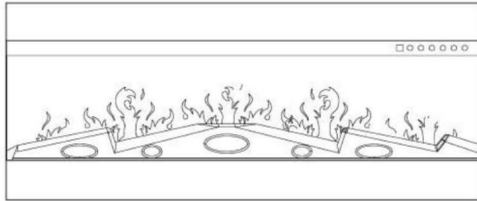

Figure 1
- B. If your fireplace come with a log-set (not standard), take the log-set out of the package and put it to the fireplace media slot. Figure1.